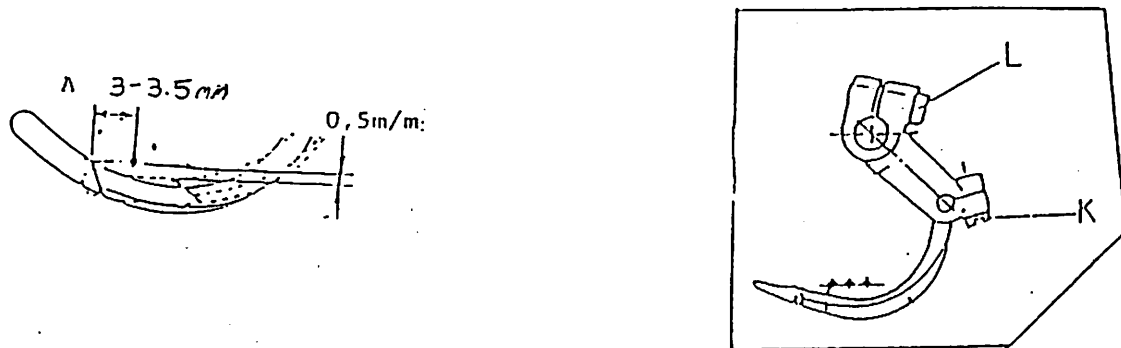

Figure 18
- a. Adjust so that the gap between the front hook point of the spreader looper and the front needle shall be 0.5 mm when the looper passes by the front needle, and that the hook point shall be at the point A on the needle line 3 to 3.5 mm apart from the front needle when the looper is at its left dead point. To adjust temporarily tighten the screws L and K. Covering thread guide wire must push the top cover thread behind the right needle just before the needle bar reaches top dead center. (Fig. 18)